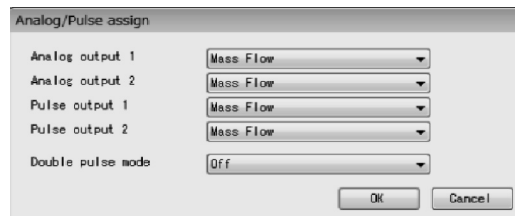

Fig.30
- ① Click the "Setup (S)" menu, and then select and click "Analog/Pulse Assign" from the "Outputs" drop-down list.
- ② The following window will be displayed (Fig. 30). Assign analog output 1 and 2 here, as well as pulse output 1 and 2.